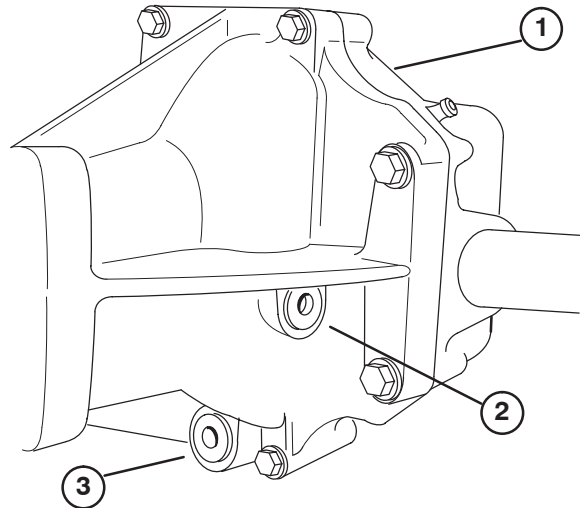

Figure 57
2. Remove drain plug (Fig. 57) from side of reservoir and let hydraulic fluid flow into drain pan.